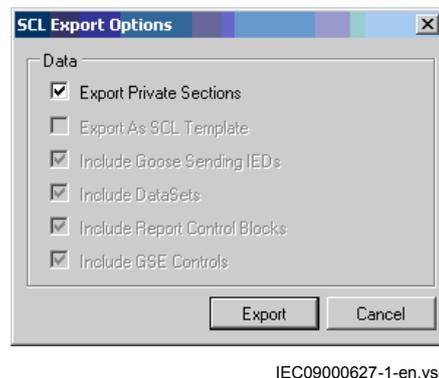

Figure 56: IEC 61850: SCL Export Options
4. The *SCL Export Options* window opens, see Figure 56.